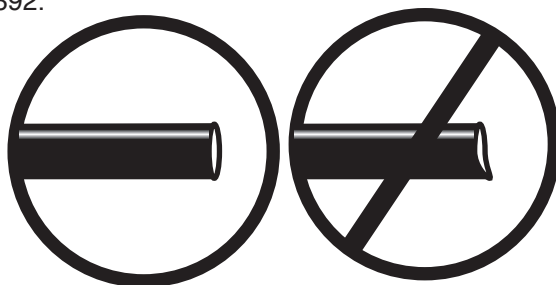

fig. 12
- a. Check the air line connection by deflating the spring and removing the line by pulling the collar against the fitting and pulling firmly on the air line. Trim 1" off the end of the air line. Be sure the cut is clean and square (see fig. 12). Reinsert the air line into the push-to-connect fitting.
2. If the preceding steps have not resolved the problem, call Air Lift customer service at (800) 248-0892.